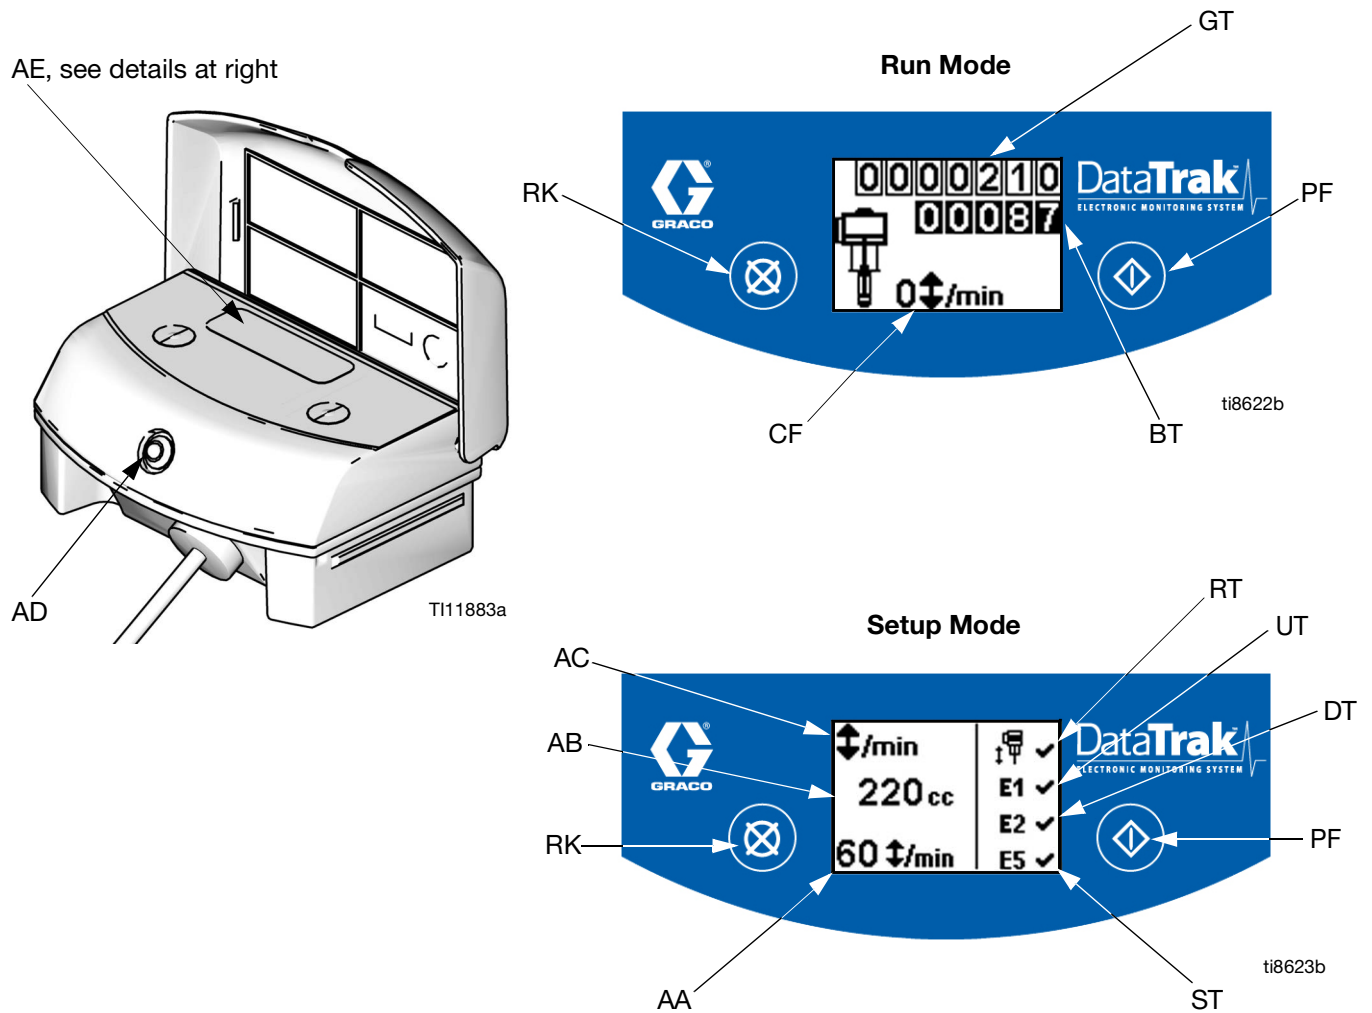

FIG. 4. DataTrak Controls and Indicators
Key for FIG. 4
1. See FIG. 4. Press and hold  for 5 seconds until Setup menu appears.
NOTE: When runaway, E1, E2, and E5 error options are enabled, a 3 will appear on the setup screen. See FIG. 4.
1. See FIG. 4. If pump runaway occurs, the runaway solenoid will actuate, stopping the pump. The LED (AD) will flash and the display (AE) will indicate a runaway condition (see Table 1). The display will cycle through six instruction screens.
2. Runaway Screens 1 and 2: To reset the runaway solenoid, close the master air valve (U). Wait for air to completely bleed off the air motor.
5. Open bleed-type master air valve (U) to restart pump.
NOTE: To disable runaway monitoring, go to setup mode and set runaway value to 0 (zero) or toggle (RT) off  (see FIG. 4).
1. See FIG. 4. To enter Prime/Flush mode, press any key to wake up the display, then press . The Prime/Flush symbol will appear in the display and
See FIG. 4. The last digit of the batch totalizer (BT) represents tenths of gallons or liters. To reset the totalizer, press any key to wake up the display, then press and hold  for 3 seconds.
See FIG. 4. The display (AE) will turn off after 1 minute of inactivity in Run mode or 3 minutes in Setup mode. Press any key to wake up the display.
DataTrak can diagnose several problems with the pump. When the monitor detects a problem, the LED (AD, FIG. 4) will flash and a diagnostic code will appear on the display. See Table 1.